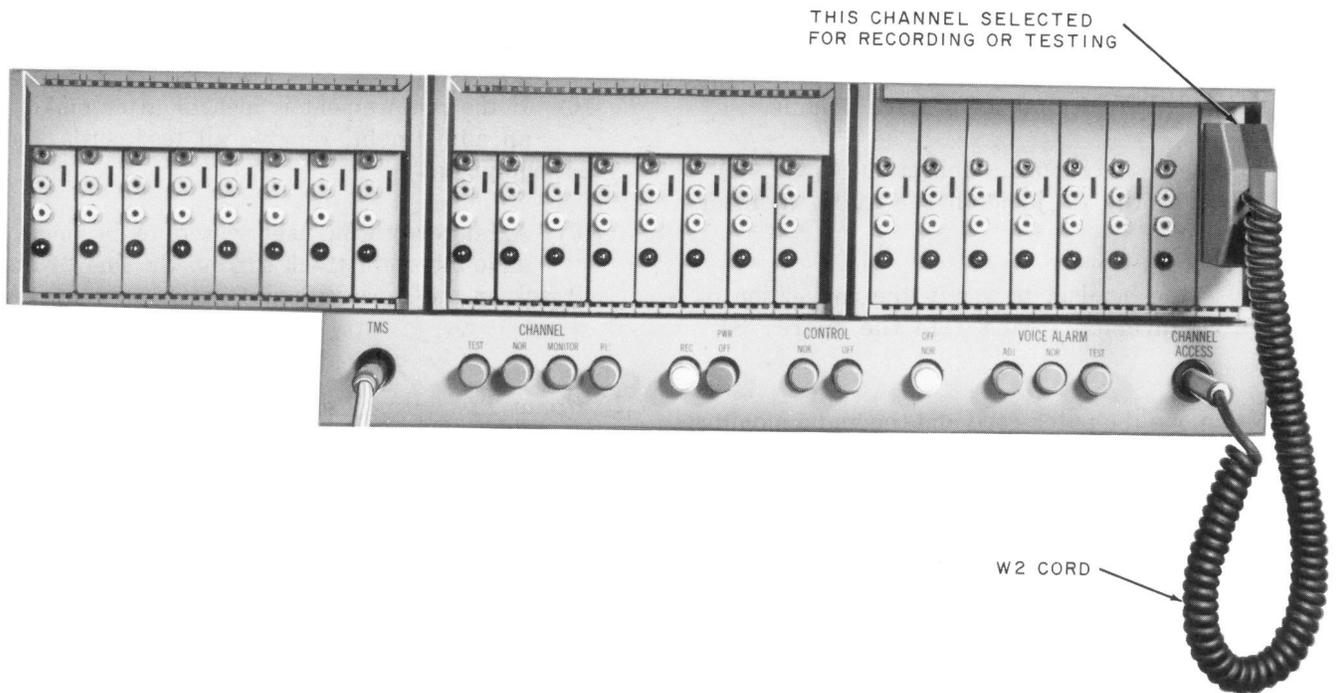

Fig. 13—Modular Message Channel Module and Control Unit
- (1) Notify the traffic personnel that the channel will be out of service.
- (2) Operate the CONTROL OFF key on the control unit (Fig. 13).
- (3) Using the W1 patch cord, connect the 1000-Hz jack to the TMS jack.
- (4) Remove the A1019 circuit pack associated with the channel selected to be used in the test. Mount the circuit pack in an extender card and mount the extender card in the channel module.
(5) Using the W2 patch cord, connect the selected channel circuit pack to the CHANNEL ACCESS jack.
(6) Set the oscilloscope to measure a sine wave of amplitude 0.5 volt peak to peak. Connect the oscilloscope leads to pins 2 and 0 (ground).
(7) Operate the CONTROL NOR key; then operate and hold the CHANNEL REC key.
(8) Note the indication on the oscilloscope. Release the CHANNEL REC key.
(9) If requirement is met or after making adjustment, operate the CONTROL OFF key. Remove the oscilloscope connections.
(10) Disconnect the W2 patch cord, remove the extender card from the channel module, and remove the A1019 circuit pack from the extender card. Remount the A1019 circuit pack in the channel module.
(11) Remove the W1 patch cord from the jacks.
(12) Operate the CONTROL NOR key.
(1) Using the W1 patch cord, connect the transmission measuring set MEAS jack to the TMS jack.
(2) Set the transmission measuring set INPUT to 600 and the ADD DBM switch to the level closest the transmission level desired.
(3) Using the W2 patch cord, connect the CHANNEL ACCESS jack to the channel to be measured (Fig. 13).
(4) Operate the CHANNEL MONITOR key and note the indication on the transmission measuring set. The transmission level is
(2) Operate the VOICE ALARM TEST key (Fig. 13); within approximately 30 seconds, the lamp on the A1019 circuit pack will light.
(3) Operate the VOICE ALARM NOR key.